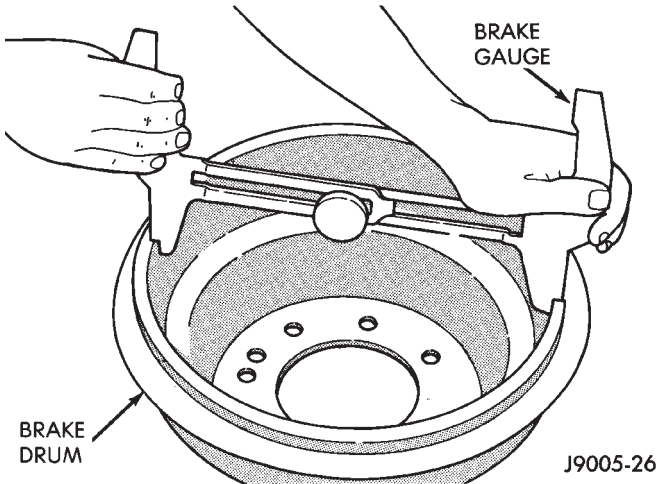

Fig. 52 Adjusting Gauge On Drum
- (1) Be sure parking brakes are fully released.
- (2) Raise rear of vehicle and remove wheels and brake drums.
- (3) Verify that left and right automatic adjuster levers and cables are properly connected.
- (4) Insert brake gauge in drum. Expand gauge until gauge inner legs contact drum braking surface. Then lock gauge in position (Fig. 52).